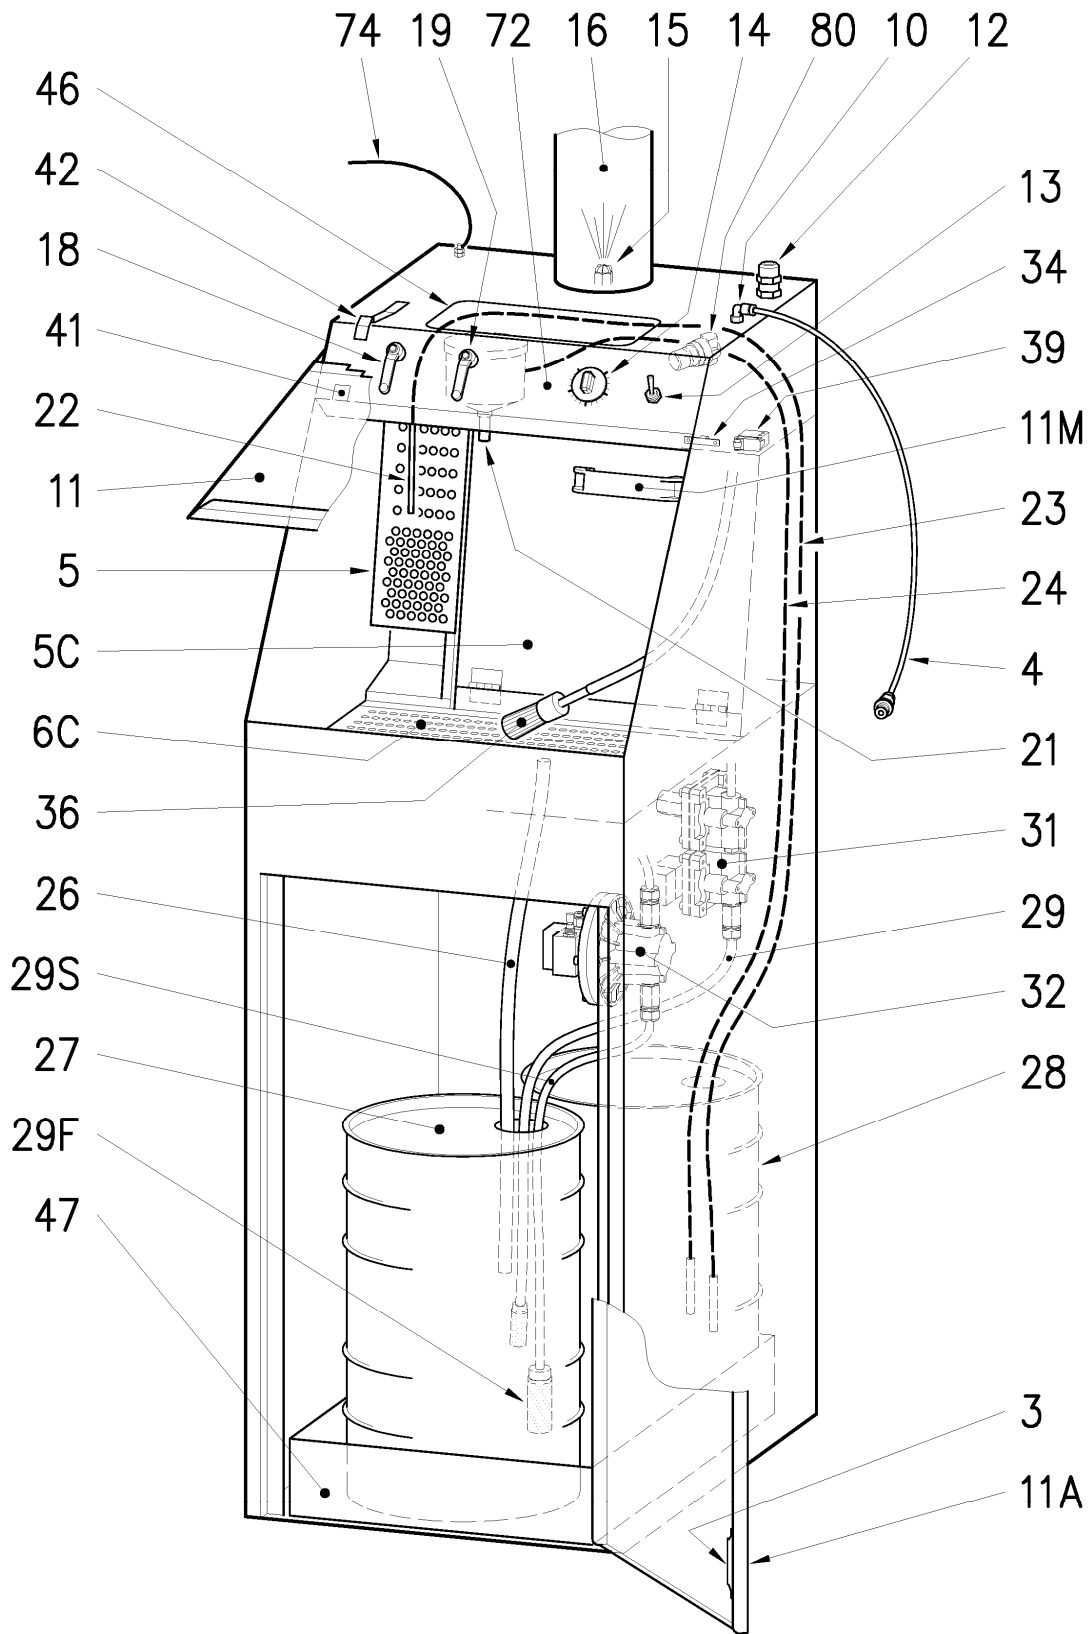

Figure 1
The **Spray Washer** basically consists of a steel drum (see fig.1) in which are stored: A closed chamber where an automatic washing occurs operated by a pneumatic pump (pos.32 fig.1), a manual washing operated by a brush (pos.36 fig.1) controlled by a pneumatic pump (pos.31 fig.1), a venturi pump (pos.21 fig.1) and a nebulizer (pos.22 fig.1), a grid plate (pos.6C fig.1) used for placing and draining spray guns and accessories, a control panel in the upper front of the unit. **Spray Washer** have flexible hoses (pos. 23-24-26-29S fig.1) for the intake and discharge of solvent situated in the drums near the base of the machine. When the upper door (pos.11 fig.1) is closed, the membrane pump (pos.32 fig.1) is active and ready to work. When the upper door (pos.11 fig.1) is open a venturi suction generated by a nozzle (pos.15 fig.1) inside the hose (pos.16 fig.1) blow out and discharge all solvent vapours generated inside; furthermore, the venturi pump (pos.21 fig.1), nebulizer (pos.22 fig.1) and the brush (pos.36 fig.1) are ready to work. Before vapour discharge hose (pos.16 fig.1), it is possible to install an active carbon purifier (optional) to combat the polluted gaseous particles.
- Command of the venturi pump (pos.19 fig.1).
- Command of the nebulizer (pos. 18 fig.1).
- Command of the brush (pos.13 fig.1).
- The setting of the automatic wash time by means of the timer (pos. 14 fig.1).
Description of the SPRAY WASHER (See fig. 1):
| Diameter of the 3 intake nozzle holes pos. 15 (fig.1) | mm | 0.8 |
| Diameter of the vapour intake chute pos. 16 (fig.1) | mm | 120 |
| Number of pump strokes (pos.32 fig.1) | N° impulse/mi n. | 60÷70 |
| Number of pump strokes (pos.31 fig.1) | N° impulse/mi n. | 100 |
| Capacity of a single detergent drums pos. 27 e 28 (fig.1) | dm ³ (litres) | Up to 60 |